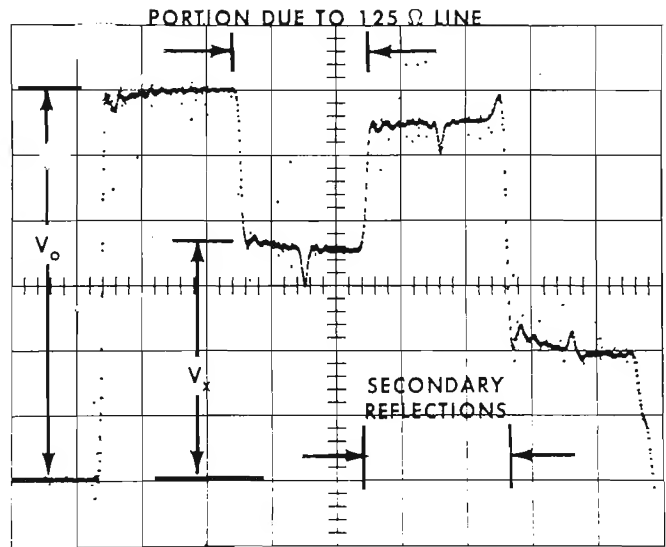

Fig. 4. Waveform obtained with 125-ohm cable and 50-ohm system.
2. Observe the incident and reflected pulses on the oscilloscope. Using Fig. 4 as a guide, determine the values of V_o (incident) and V_x (reflected). (This method is generally limited to the first reflections unless the deviations are small, due to multiple reflections and reflection losses.)